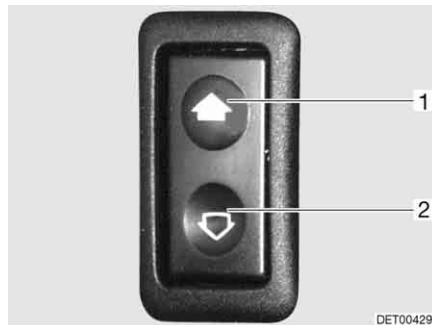

Fig. 30 Switch for electrical window winders
- Opening:* ■ Press lower part of the switch (Fig. 30,2).
- Closing:* ■ Press upper part of the switch (Fig. 30,1).